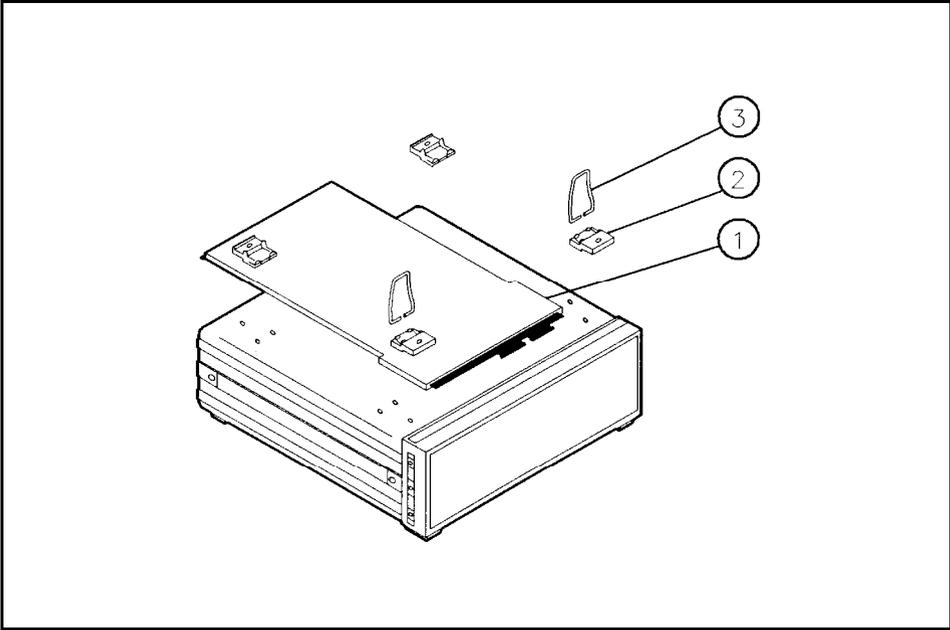

Figure 2-4. Removing the Information-Card Tray
- 3. The information-card tray located on the bottom of the RF-Display section requires a space of approximately 2 cm below the instrument when rack mounting. See callout 1 in Figure 2-4. (No filler strip is provided.) If you wish to remove the information-card tray, remove the feet and tilt stands. See callouts 2 and 3 in Figure 2-4.